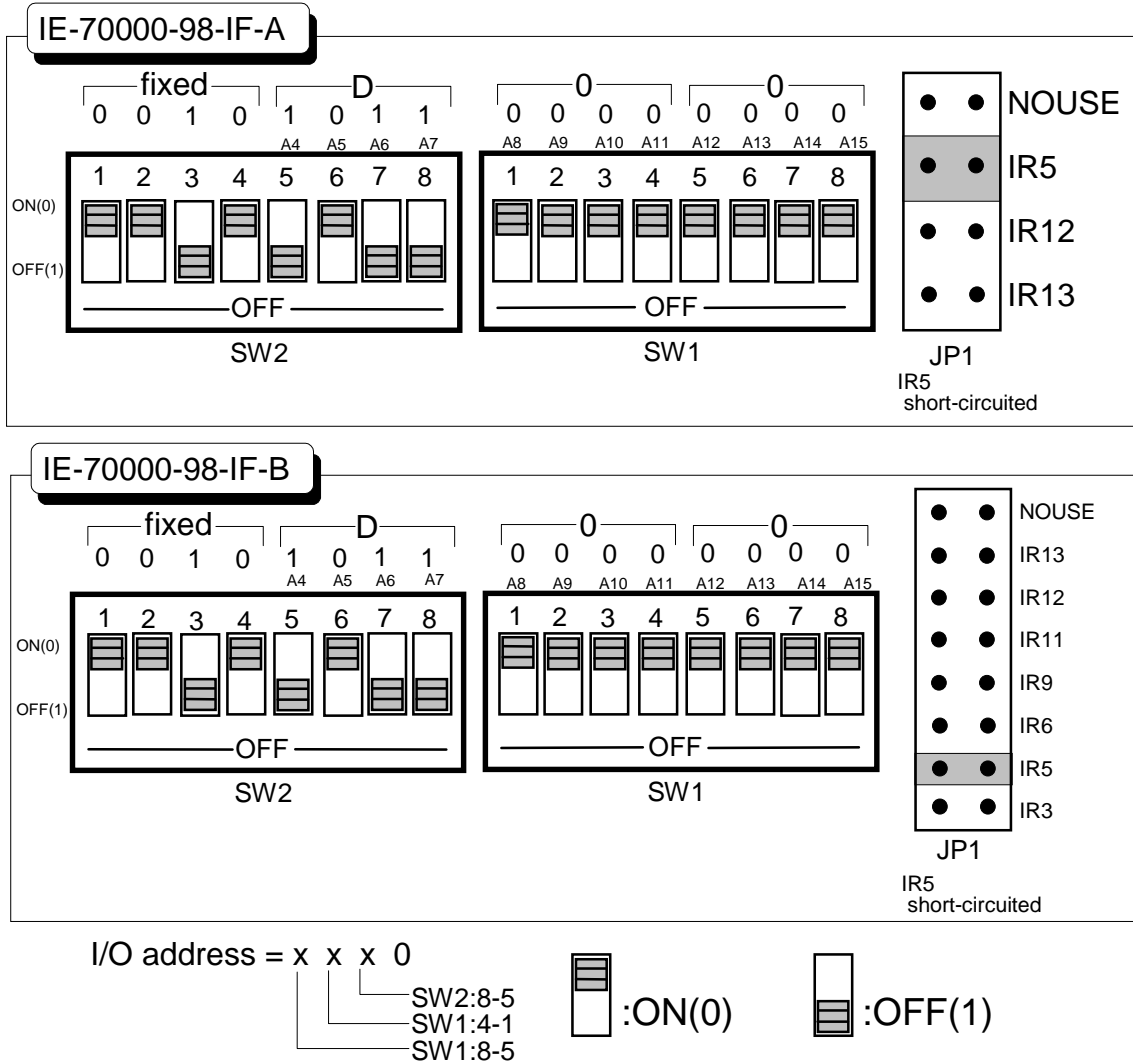

Fig. 2-1 Dip Switch Settings (PC-9801 and 9821)
(2) Setting and connecting the devices
① Turn off all the devices.
② Set the dip switches and jumpers of the PC interface board (IE-70000-98-IF-A or IE-70000-98-IF-B) as shown in Figure 2-1.